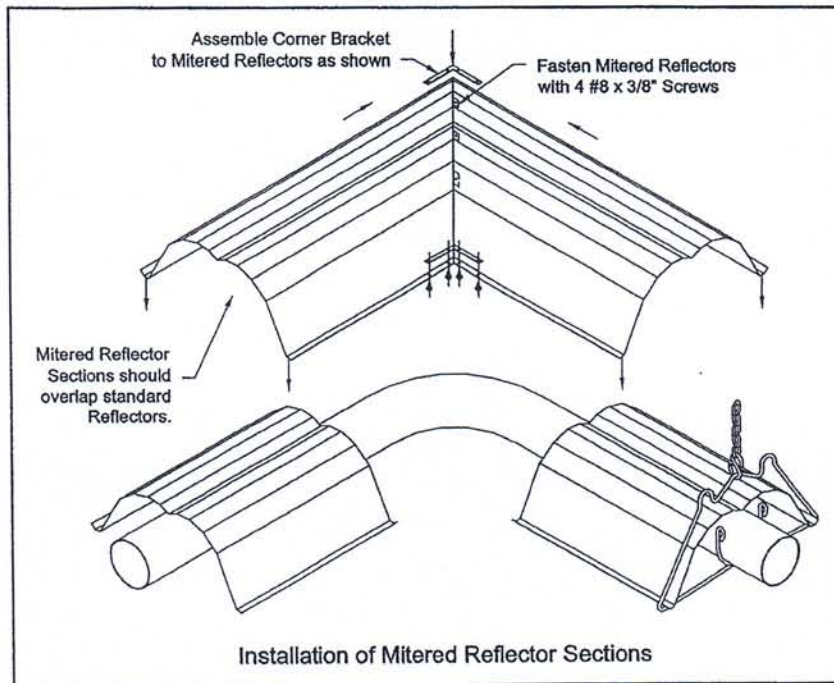

Figure 15
*Note: Elbows or U-bends are typically installed without reflectors. To reduce the above clearance to combustibles distance use miter reflectors (see figure 15) and refer to Clearance to Combustibles information.*